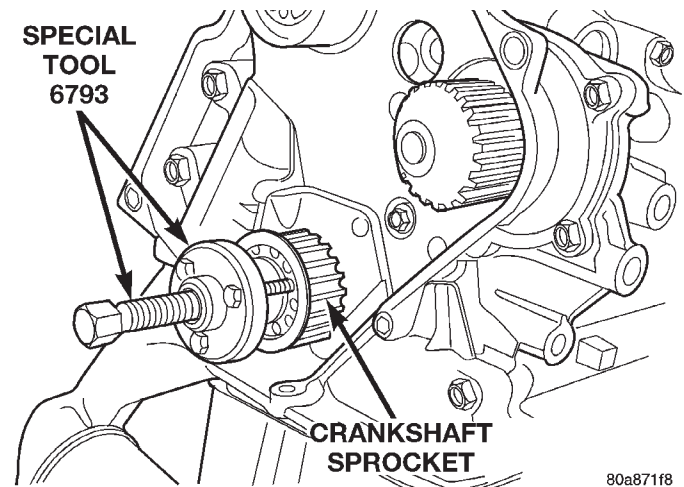

Fig. 77 Crankshaft Sprocket—Removal
- (1) Disconnect negative battery cable.
- (2) Remove Timing Belt. Refer to Timing Belt Removal in this section.
- (3) Remove collar and Oil Pan. Refer to Oil Pan Removal in this section.
- (4) Remove Crankshaft Sprocket using Special Tool 6793 and insert C-4685-C2 L (Fig. 77).